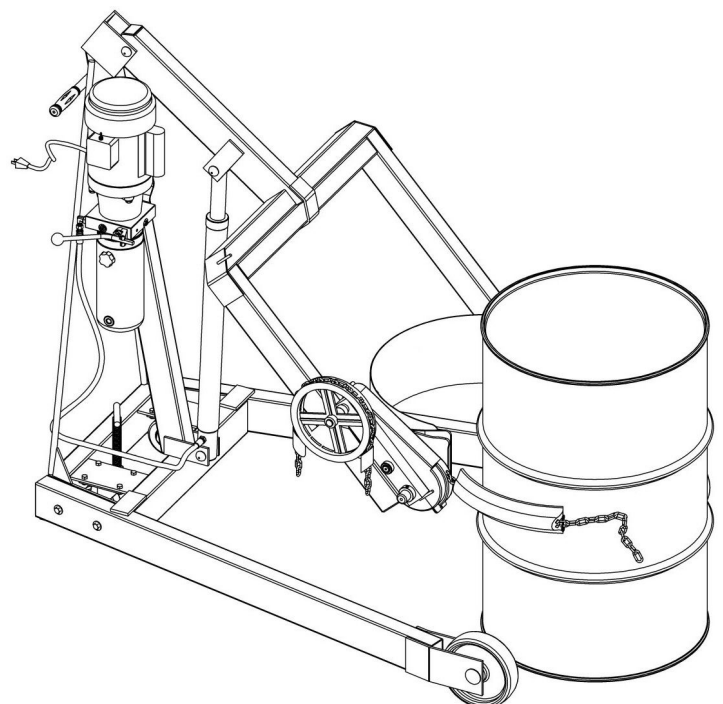

Figure 3.1
The step-down floor lock is located behind the base (figure 3.1). To activate, step down on the floor lock until it locks in down position. When floor lock is activated it prevents unwanted free wheeling of unit. Floor conditions determine effectiveness of floor lock. Operator should verify its holding action before depending on it to hold.
- 2.) Using "LIFT" control as described in "Machine Description - Controls", position drum holder assembly with back band at middle of drum (Figure 3.1). With ratchet plate swung open and cinch chain hanging from chain hook, push unit until back band rests firmly against drum. Some adjustment to tilt angle of saddle may be necessary to ensure band fits flush on drum.